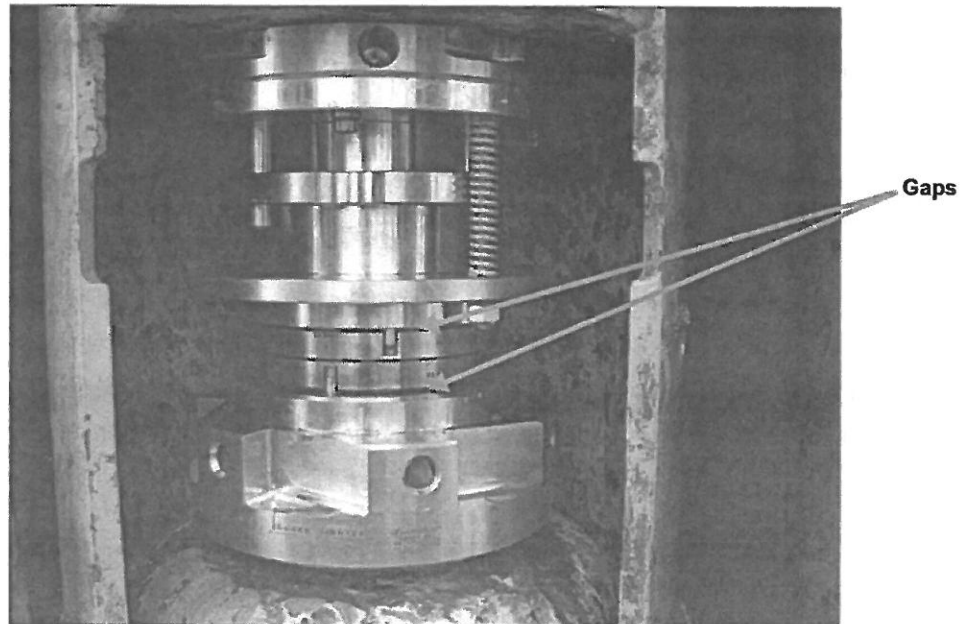

Figure 4-4. Mechanical Seals Installed
20. Figure 4-4 shows the mechanical seals installed correctly. (Note that safety wire has not been properly installed on the cap screws.)
Figure 4-4 shows small gaps between the upper seal surface of the Top Stationary Seal and the lower seal surface of the Bottom Stationary Seal. These gaps are normal after installation and are caused by the O-rings. The O-rings will compress and the gaps will go away when mud pressure is applied to the system.